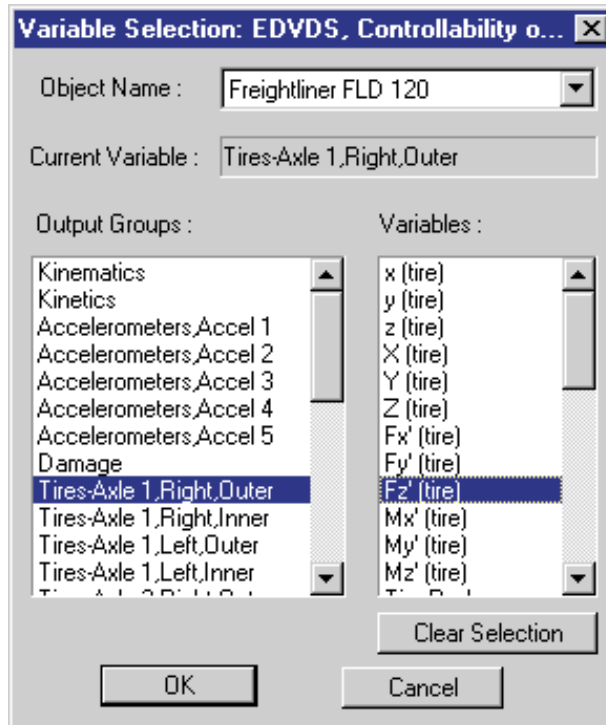

Figure 5-20 Key Results Variable Selection dialog, used for selecting variables to be displayed in the Key Results window.
- Click *Tires* and choose *Axle 1, Right, Outer* from the cascade menus. The Variable Selection list for the right front tire is displayed (see Figure 5-20, above).